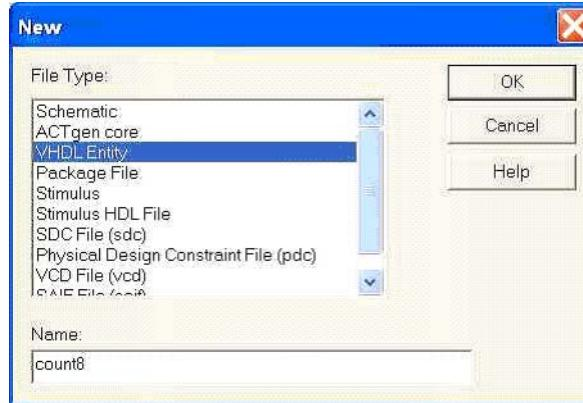

Figure 7-8 • New File Dialog Box
- From the **File** menu, click **New**. This opens the New dialog box, as shown in Figure 7-8.